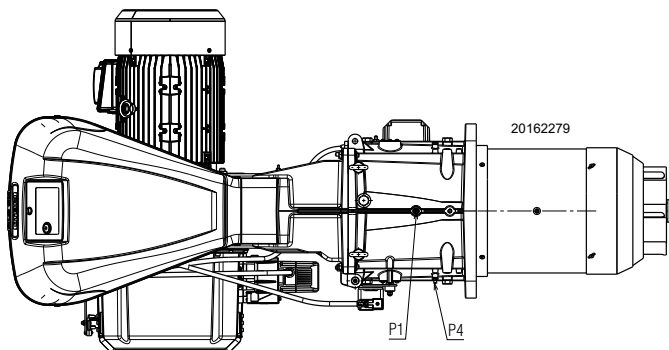

Fig. 24
Gas pressure measured at the test point P1) (Fig. 24), with:
- subtract the combustion chamber pressure from the gas pressure measured at test point P1) (Fig. 24).
$$\begin{aligned} \text{Gas pressure at test point P1)(Fig. 24)} &= 27.6 \text{ mbar} \\ \text{Pressure in combustion chamber} &= 2 \text{ mbar} \\ 27.6 - 2 &= 25.6 \text{ mbar} \end{aligned}$$
To calculate the required gas pressure at test point P1) (Fig. 24), set the MAX output required from the burner operation:
- read, on the right (column 1), the pressure at the test point P1)(Fig. 24).
Pressure required at test point P1)(Fig. 24).